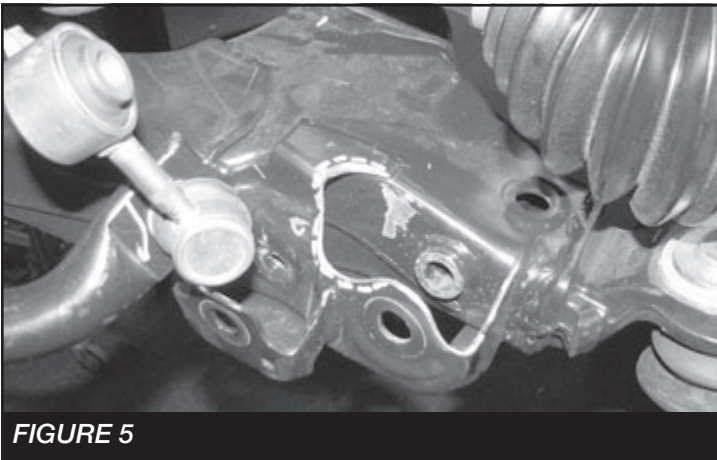

FIGURE 5
7. Using a 1.5 inch barrel sand mount 2.2 inches away from the ball joint and 1.4 inches down on the front side of the mount. **SEE FIGURE 5**